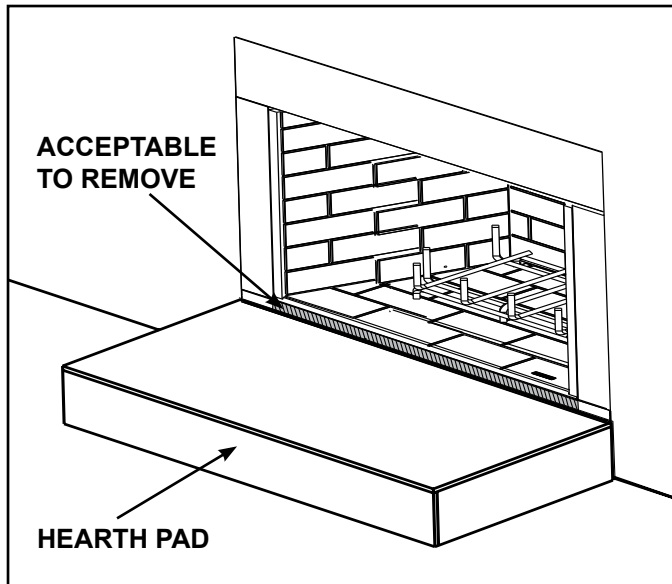

Figure 3.5 Solid Fuel Firebox
- A metal lip protruding above the hearth pad of the solid fuel firebox may be removed. See Figure 3.5.